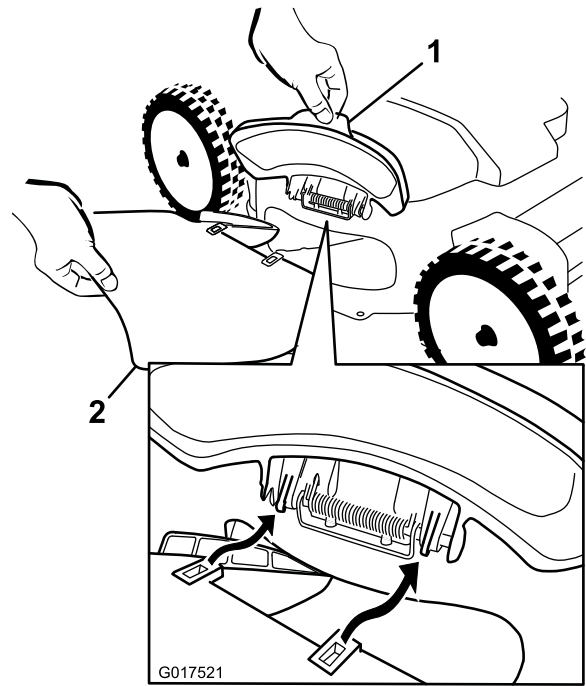
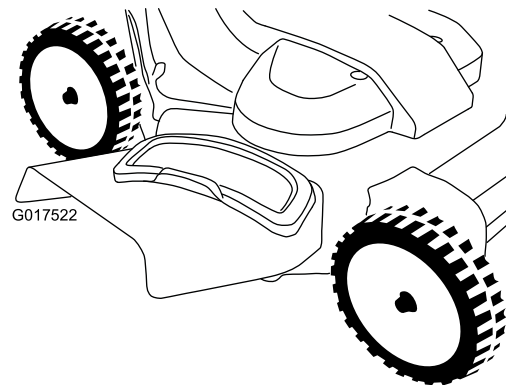

Figure 27
Figure 28
2. Install the side-discharge chute as shown in Figure 27 and Figure 28, and close the deflector onto the chute.
1. Lift open the side-discharge deflector (Figure 27).